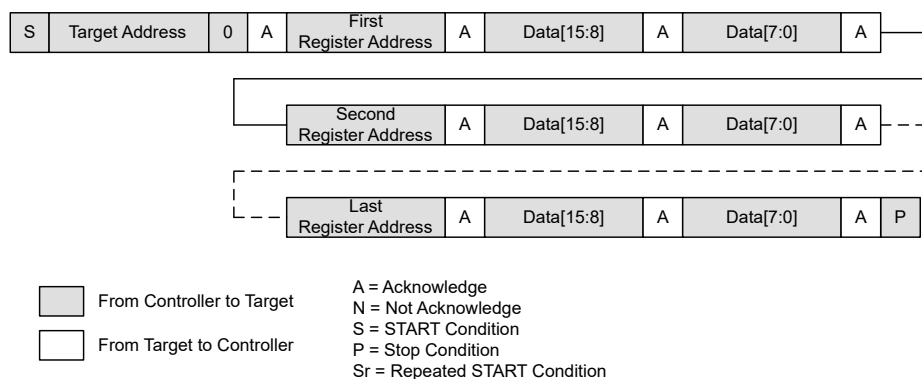

図 7-22. Write to Multiple Registers
7.5.1.5.2 Writing Multiple Registers (図 7-22)
A complete word must be written to a register (high byte and low byte) for proper operation, as shown in 図 7-22. Steps for this process are: